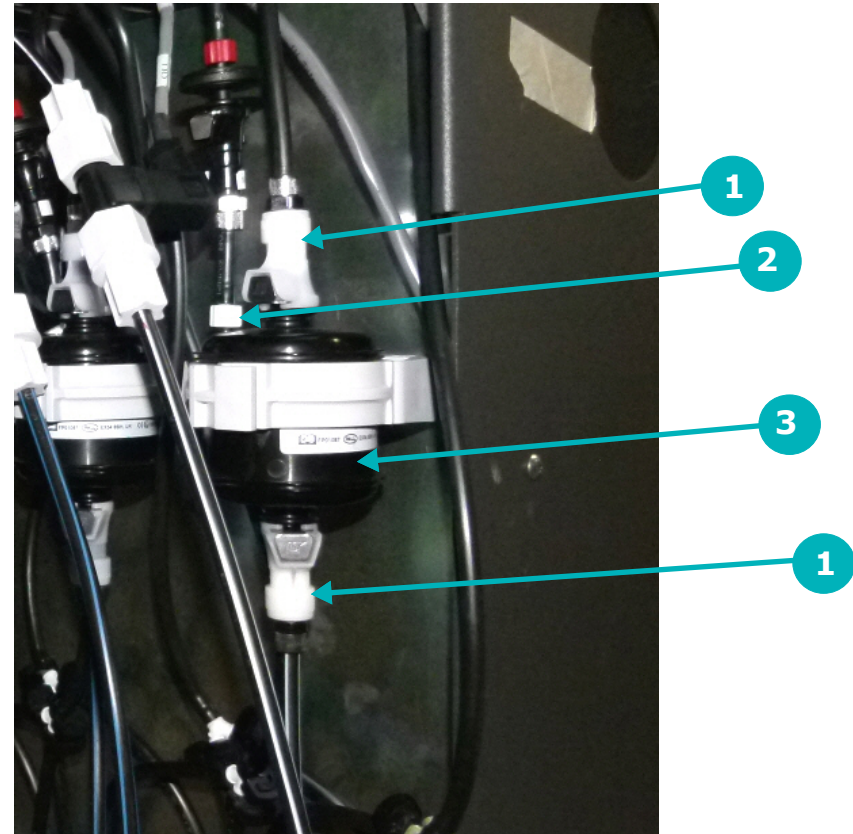

Figure 2-58: Primary Ink Filters
A. Locate primary ink filter for each color, Figure 2-58.